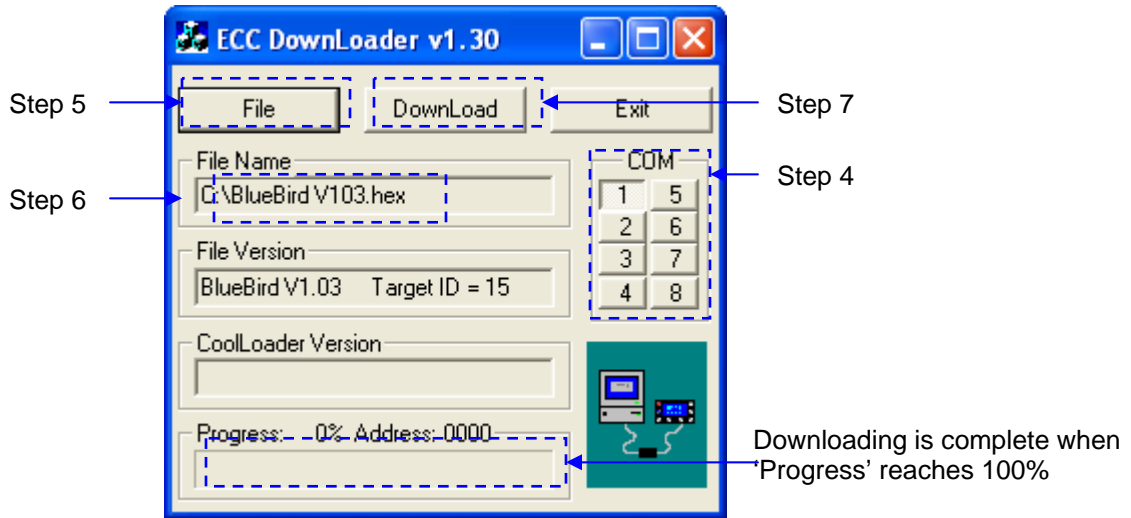

Figure 3
3. Run MCC's ECC DownLoader software on laptop. (see figure 3)